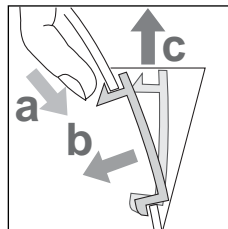
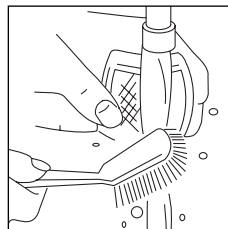

Fig. 1
fig. 2
- Remove the filter by pushing as shown in fig. 1 and wash with water (fig. 2). Refer to page 5. "Removing the scale filter"
- Empty the kettle and remove the filter by pushing as shown in fig. 1.
- Rinse under a tap whilst brushing with a soft brush (fig. 2).